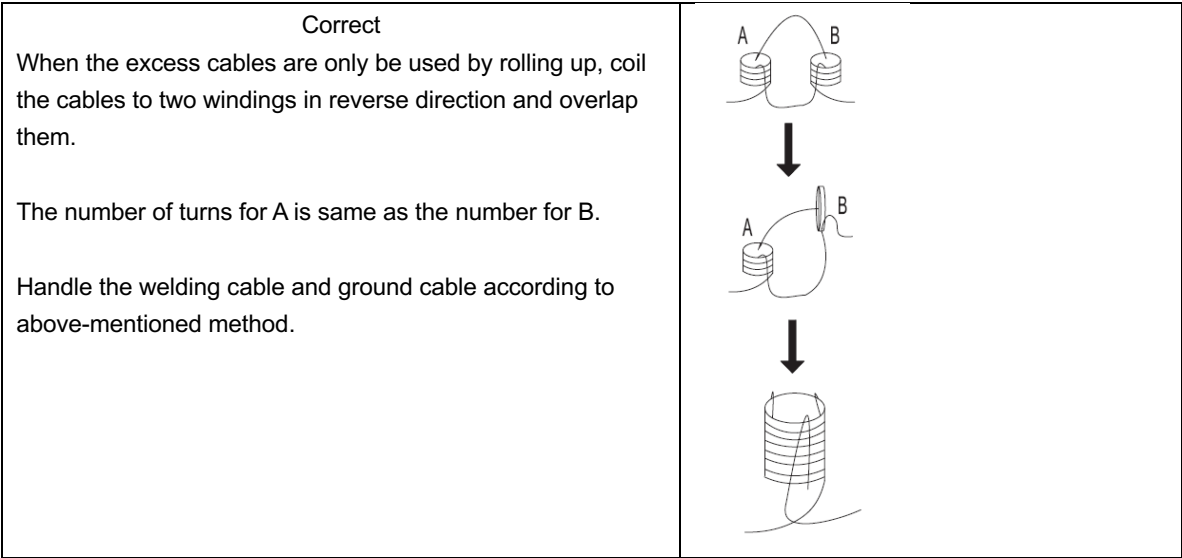

Fig. 3-4-1: Welding cables instruction
- b. If extended cable is used, please do as shown in Fig. 3-4-1.